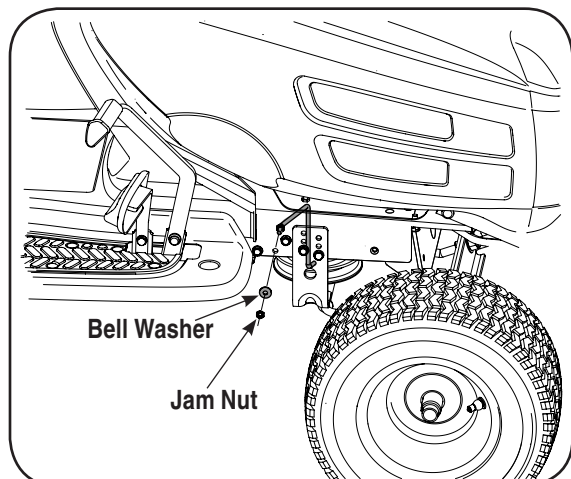

Figure 7
2. Secure the belt keeper to the inside of the tractor's frame with the hex nut, bell washer and jam nut as shown in Figure 7.